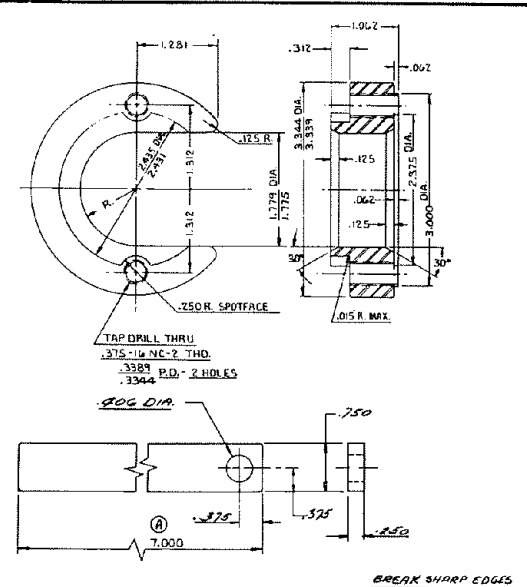

Fig. 16 COUNTERSHAFT-REAR BUSHING AND RETAINER
1. Use rear bore countershaft bearing piloting tools shown on page 25, Fig. 16, to support the rear ends of both countershafts. As pilot tools are inserted into bores, etc., *keep timing teeth in correct mesh with each other.*